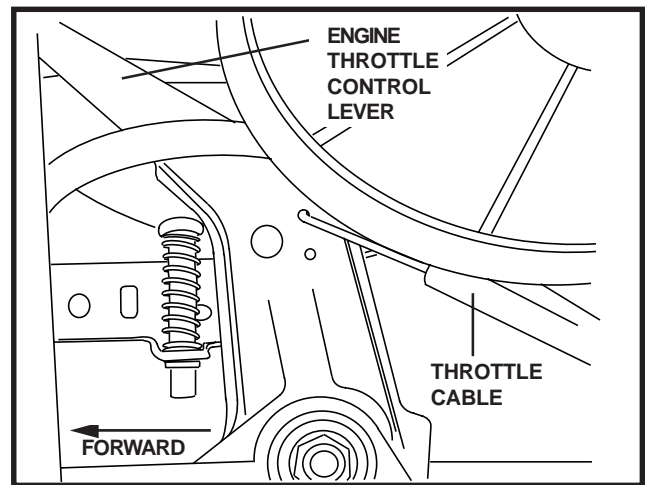

FIGURE 7
13. Push throttle control lever on console forward to full extent. Pull throttle control lever on engine back as far as possible. See Figure 7.
14. Insert “L” end of throttle cable into the outside hole of the engine throttle control lever. Figure 7.